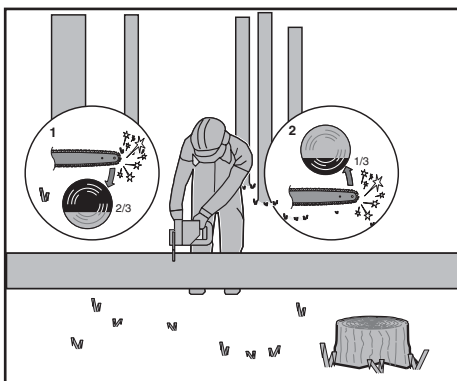

Figure 5
When the log is supported on both ends, as illustrated in Figure 5, cut $\frac{1}{3}$ the diameter from the top (overbuck) (1). Then make the finished cut by underbucking (2) the lower $\frac{2}{3}$ to meet the first cut.